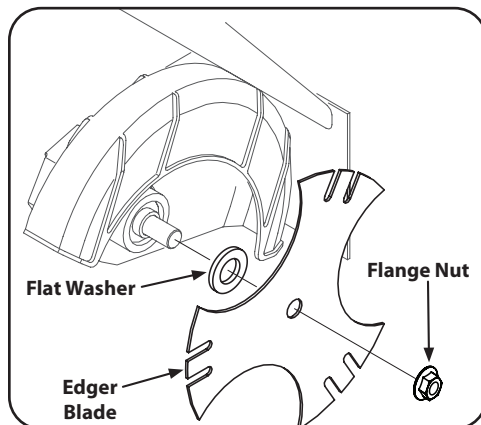

Figure 4-1
1. Use two wrenches (one wrench to prevent the hex bolt head from spinning and the other to remove the flange nut) to remove the edger blade. Refer to Figure 4-1.